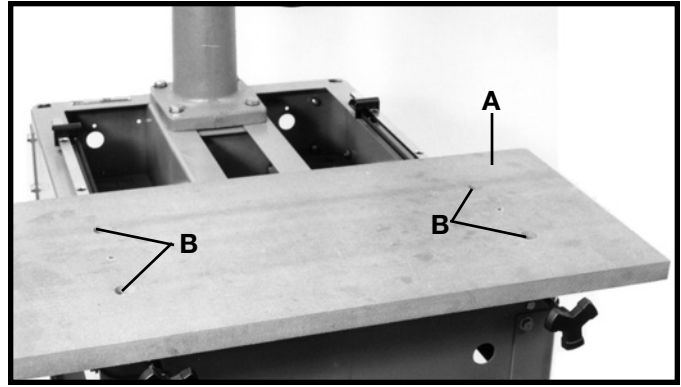

Fig. 27
1. Place main table board (A) Fig. 27, on the table mounting brackets making sure that the two roll pins in the table mounting brackets fit into the two holes in bottom of main table board (A). Fasten table in place, place a 1/4" flat washer onto a 1/4-20 x 1-3/4" round head screw and insert the screws through holes (B) predrilled in the main table board (A) and tighten securely.